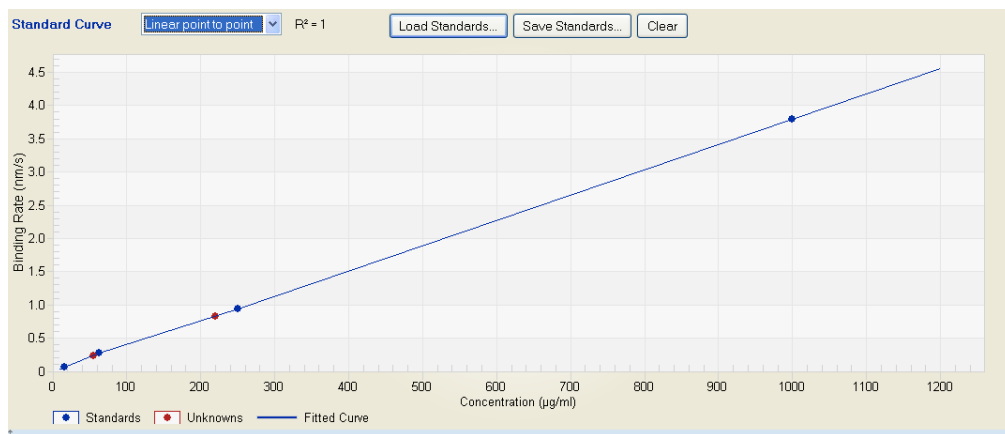

Figure 4-40: Loading Standard Curve—Binding Signal Measured in nanometers per second (nm/s) as a Function of Concentration
13. Click the **Load Standards** button on the Standard Curve graph (Figure 4-40) and select your standard curve (.fsc file) to load. You must load the standard curve generated using the protocol described in this guide.